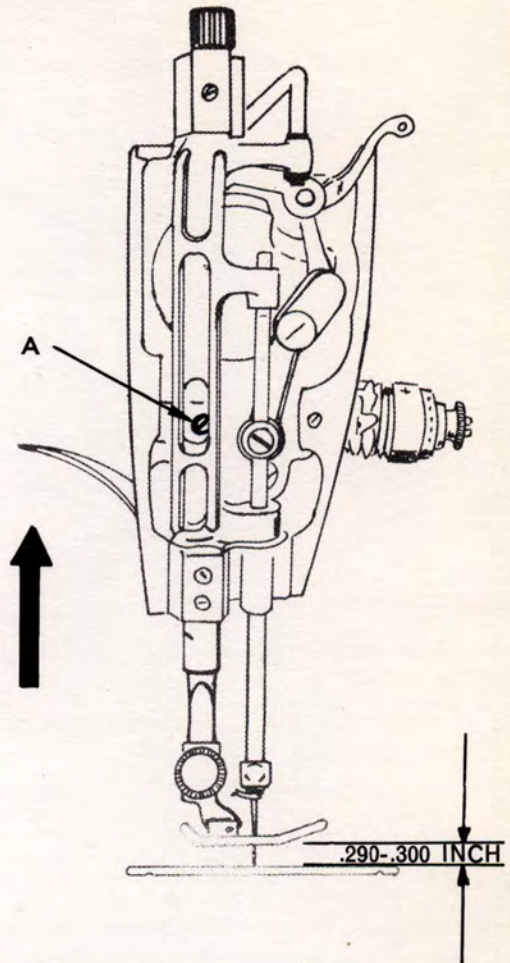

Fig. 6 Setting Presser Foot at Correct Height.
1. Loosen set screw A, Fig. 6.